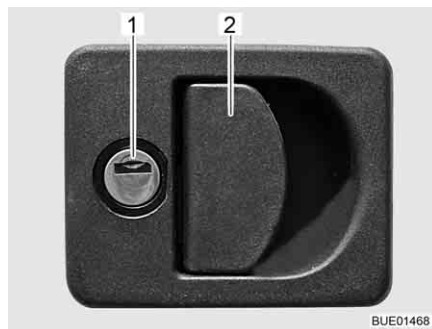

Fig. 31 Flap lock with recessed handle
- Insert key into locking cylinder (Fig. 31,1) and turn a quarter turn. The flap lock is unlatched.
- Pull on the lock handle (Fig. 31,2). The external flap is open.